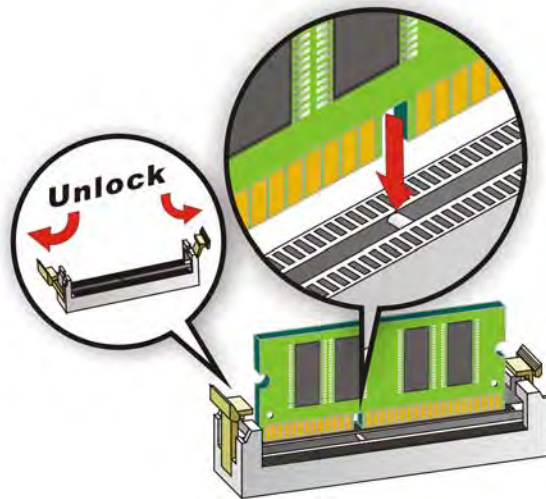

Figure 4-1: SO-DIMM Installation
To install a SO-DIMM, please follow the steps below and refer to **Figure 4-1**.
- Step 1: Open the SO-DIMM socket handles.** Open the two handles outwards as far as they can. See **Figure 4-1**.
- Step 2: Align the SO-DIMM with the socket.** Align the DIMM so the notch on the memory lines up with the notch on the memory socket. See **Figure 4-1**.
- Step 3: Insert the SO-DIMM.** Once aligned, press down until the SO-DIMM is properly seated. Clip the two handles into place. See **Figure 4-1**.